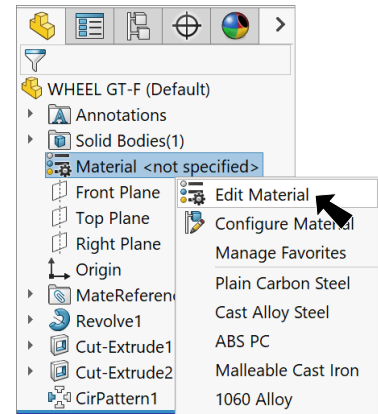

Fig. 22
Step 1. Right click Material  in the Feature Manager and click **Edit Material**, Fig. 22.